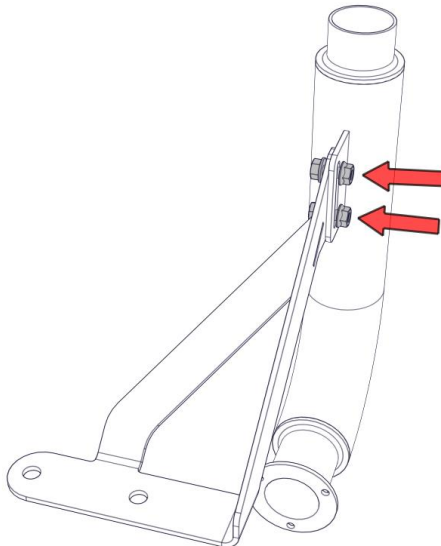

Figure 5 – Resonator fasteners
- Loosen but do not remove the fasteners on the resonator brace (Figure 5).